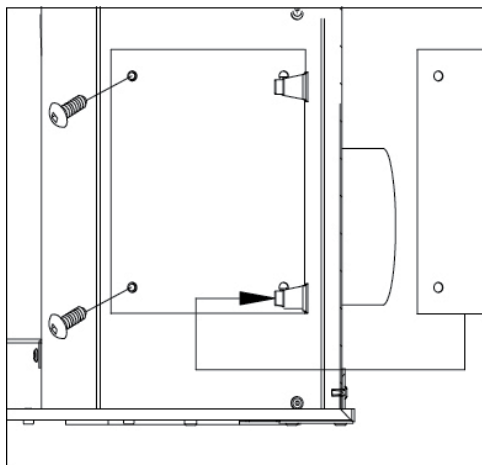

Figure 37
2. Seal the room air intake located on the right side by installing the plate over the opening. Use the two clips on the right side and two screws on the left side as in figure 37 to secure the plate.